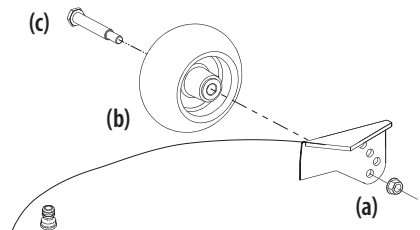

Figure 12
6. Remove the lock nut (a), gauge wheel (b) and shoulder screw (c) from the deck. See Figure 12.